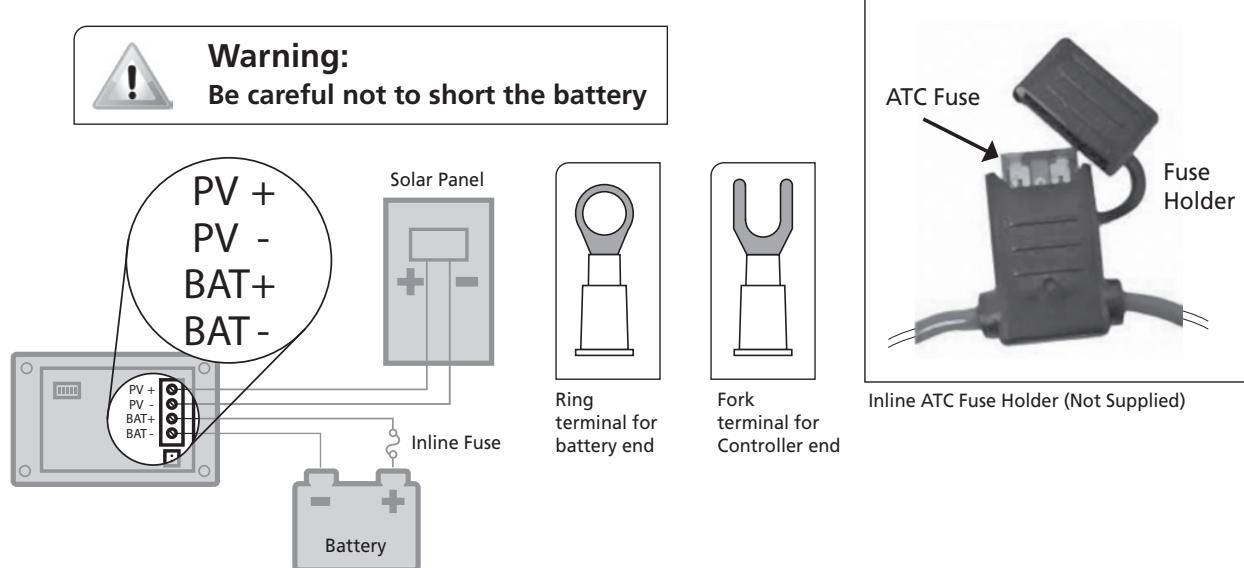

Fig 4.4. Wiring Layout
Refer to wiring layout shown in Fig. 4.4. **NOTE: Wiring and Fuse sizes recommended below are based on use of a single 150W solar panel.**
A pair of 20 foot, AWG#12, pre-assembled cables with Multi-Contact (MC4) Male and Female Connectors is provided to connect the solar panel to the Charge Controller. Please refer to wiring layout at Fig. 4.4 below.
- Make sure the Positive terminal (marked '+') of the battery is connected to the Positive terminal (marked "BAT +") of the Charge Controller and the Negative terminal (marked '-') of the battery is connected to the Negative terminal (marked "BAT -") of the Charge Controller SCC-30AB (Fig. 4.4). If you are not sure, use a DC voltmeter to determine the polarity of the battery bank. **Reverse polarity connection may damage the Charge Controller and the resulting damage will not be covered by warranty.**
- 4 pieces of Fork Terminals (Fig 4.4) have been supplied for crimping on to the wire ends on the charge controller side. These are provided with the SCC-30AB charge controller.
2 pieces of Ring Terminals (Fig 4.4) have been provided for crimping on the wire ends on the battery side.
- Use Inline ATC style Fuse Holder on the battery end of the Positive cable (Fig 4.4; NOT SUPPLIED).
9. Crimp the bare end of the wires with the fork terminals provided (Fig 4.4).
10. Insert the terminals into the appropriate terminal on the Charge Controller (Fig 4.4): Positive PV lead is connected to the Positive terminal (marked "PV +") of the Charge Controller and the Negative PV lead is connected to the Negative terminal (marked "PV -") of the Charge Controller. ***Reverse polarity connection may damage the Charge Controller and the resulting damage will not be covered by warranty.***